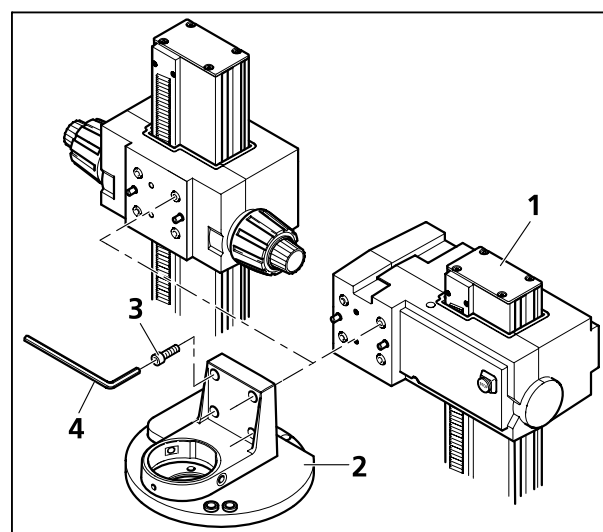

Fig. 31 Mounting the objective nosepiece to the column
- Attach the objective nosepiece (Fig. 31/2) to the focusing drive of the column used (Fig. 31/1), let the two locating screws click into place and keep hold of the unit until the first screw has been tightened.
- Screw down the four Allen screws (SW 5). Use the long leg of the offset Allen key (Fig. 31/4) to screw the screws (Fig. 31/3) in, and the short leg to fasten them hand-tight.